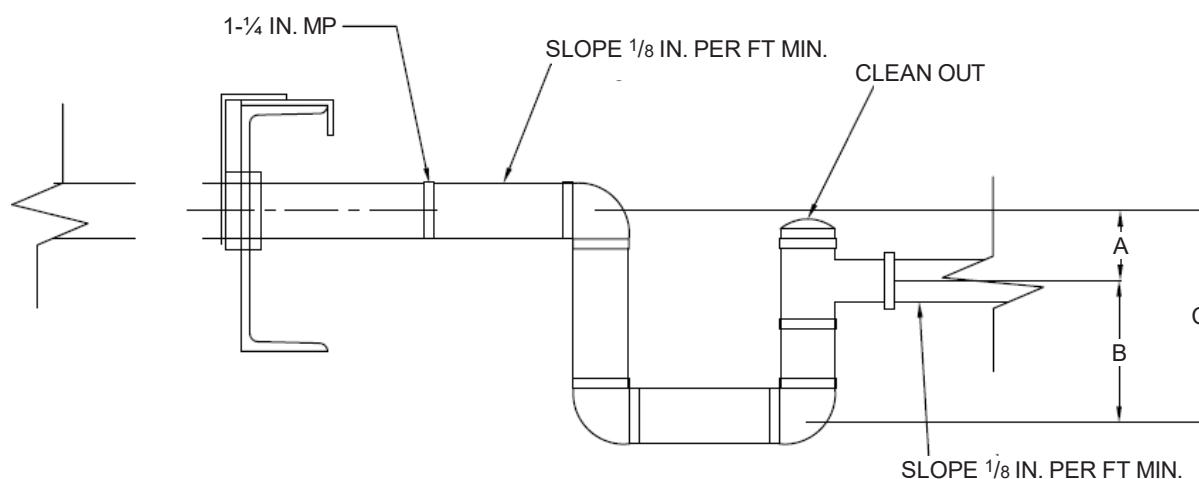

Figure 11 Condensate Drain Trap Sizing
- Refer to *Fig. 11* for condensate drain trap sizing.